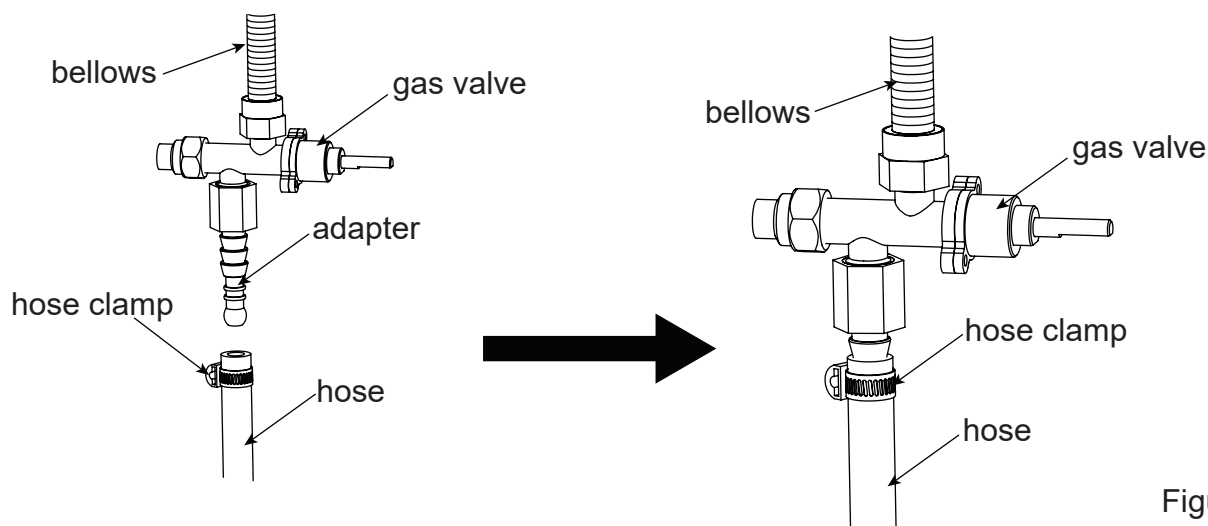

Figure 5
6. Prepare the hose and hose clamp, plug the adapter into the hose and tighten with the hose clamp (see Figure 5).